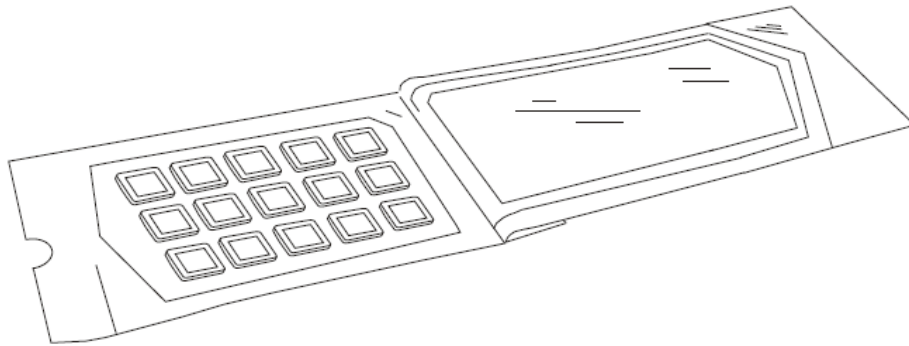

Figure 2
2. Aseptically peel the back sterile pouch with top plastic liner to expose SecureSlips (Figure 2).